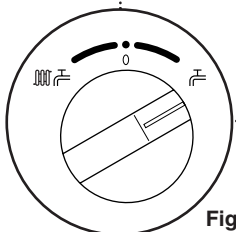

Fig. 14
1. **For short periods:** Turn the selector switch to the DHW position ( , Fig. 14).